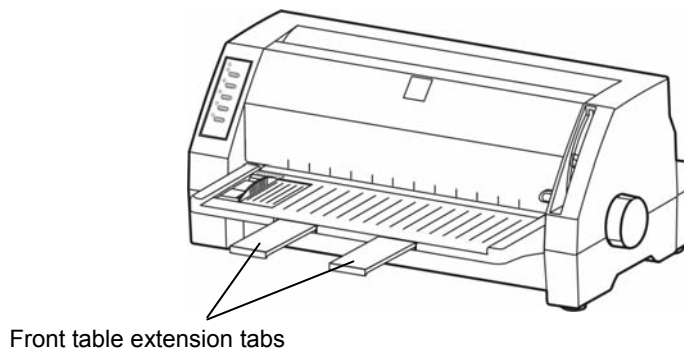

Figure 3-4 Pull out the small front table extension tabs
5. Please pull out the small front table extension tabs if the size of paper is long and requires extra support, as shown in Figure 3-4.